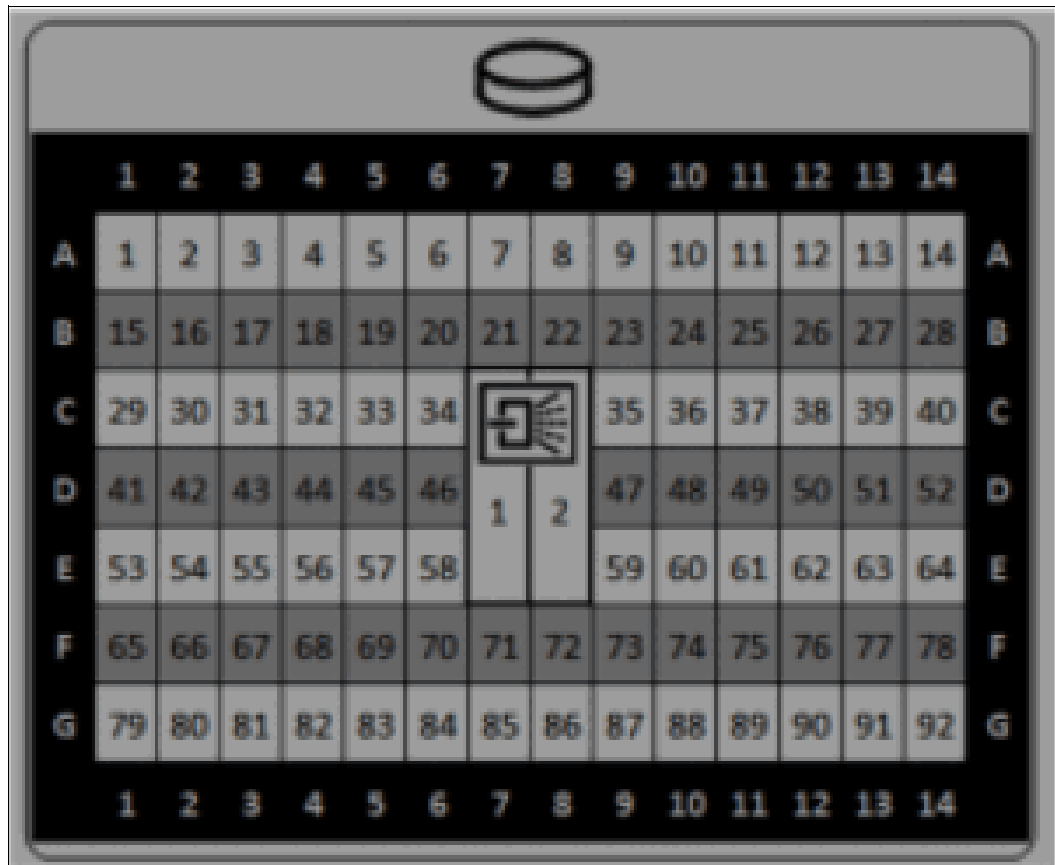

Figure 6-16 Expansion enclosure drive locations
6. Install the SAS flash drives in the expansion enclosure. A label on the expansion enclosure cover (Figure 6-16) shows the drive locations in the expansion enclosure. The drive slots are numbered 1 - 14 from left to right and A - G from the back to the front of the enclosure.